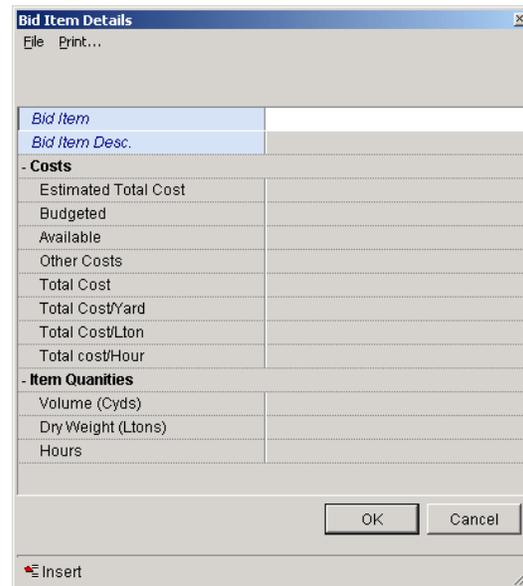

Figure 1.14 Bid Item dialog window
3. The **Bid Items Details** window will now appear as in Figure 1.14. Fill in the data fields with the appropriate bid information.
The Bid Items Details window will now appear similar to Figure 1.14. Click **Edit** to edit any of the bid item information. Click **Delete** to permanently delete the bid item.